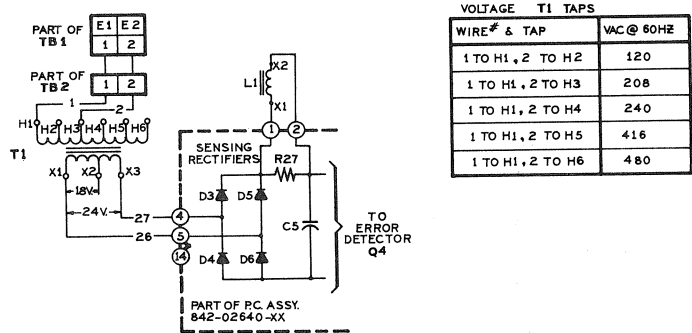

Figure 2-2 Interconnection Diagram, Single Phase Sensing (Basic KCR 560 Voltage Regulator)
a. Single Phase Sensing -- Sensing circuitry consists of sensing transformer T1, a rectifier bridge consisting of diodes D3, D4, D5, D6 and a filter circuit comprised of resistor R27, capacitor C5 and choke L1. Refer to figures 2-2 and 6-3.